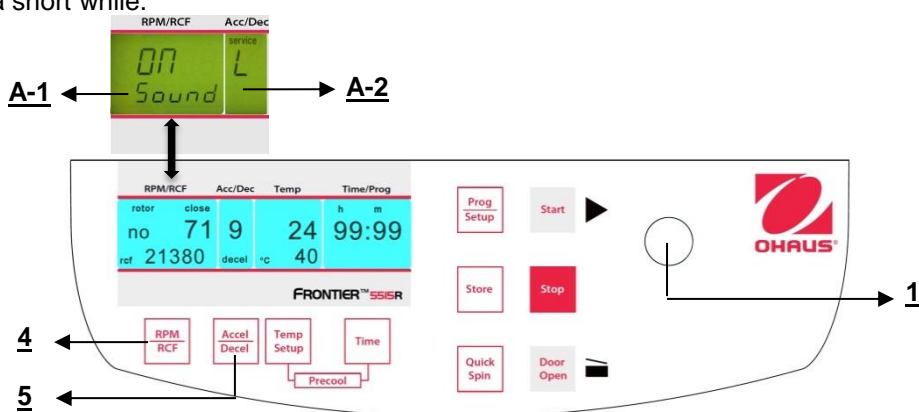

Figure. 33
Proceed as described under point 4.1.2 to enter this program mode and then press the key "Accel/Decel" (5). In the display "Acc/Dec" (A-2) the word "Service" flashes. Now select the letter "L" with the adjusting knob (1). As a result, the words "On Sound" appears in the display "RPM | RCF" (4). If you press the key "RPM | RCF" (4) now, the word "On" flashes and you can switch off the sound with the adjusting knob (1) (See figure 33).